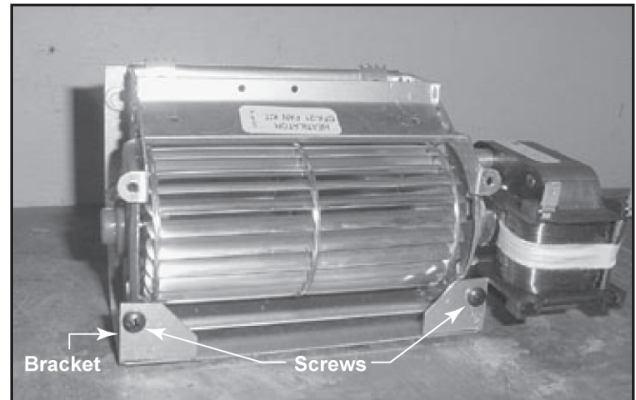

Figure 4 Fan Bracket
- If no fan shield is needed, install screws to hold the front of the fan bracket in place. See Figure 4.